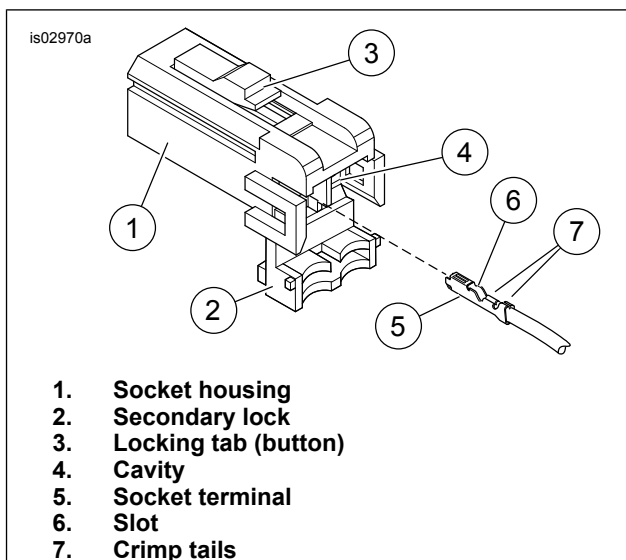

Figure 1. Socket Terminal Installation
4. See Figure 1. Insert the trim ring wire socket terminals into the connector (2) from the kit per the Tyco/AMP connector section of the service manual: